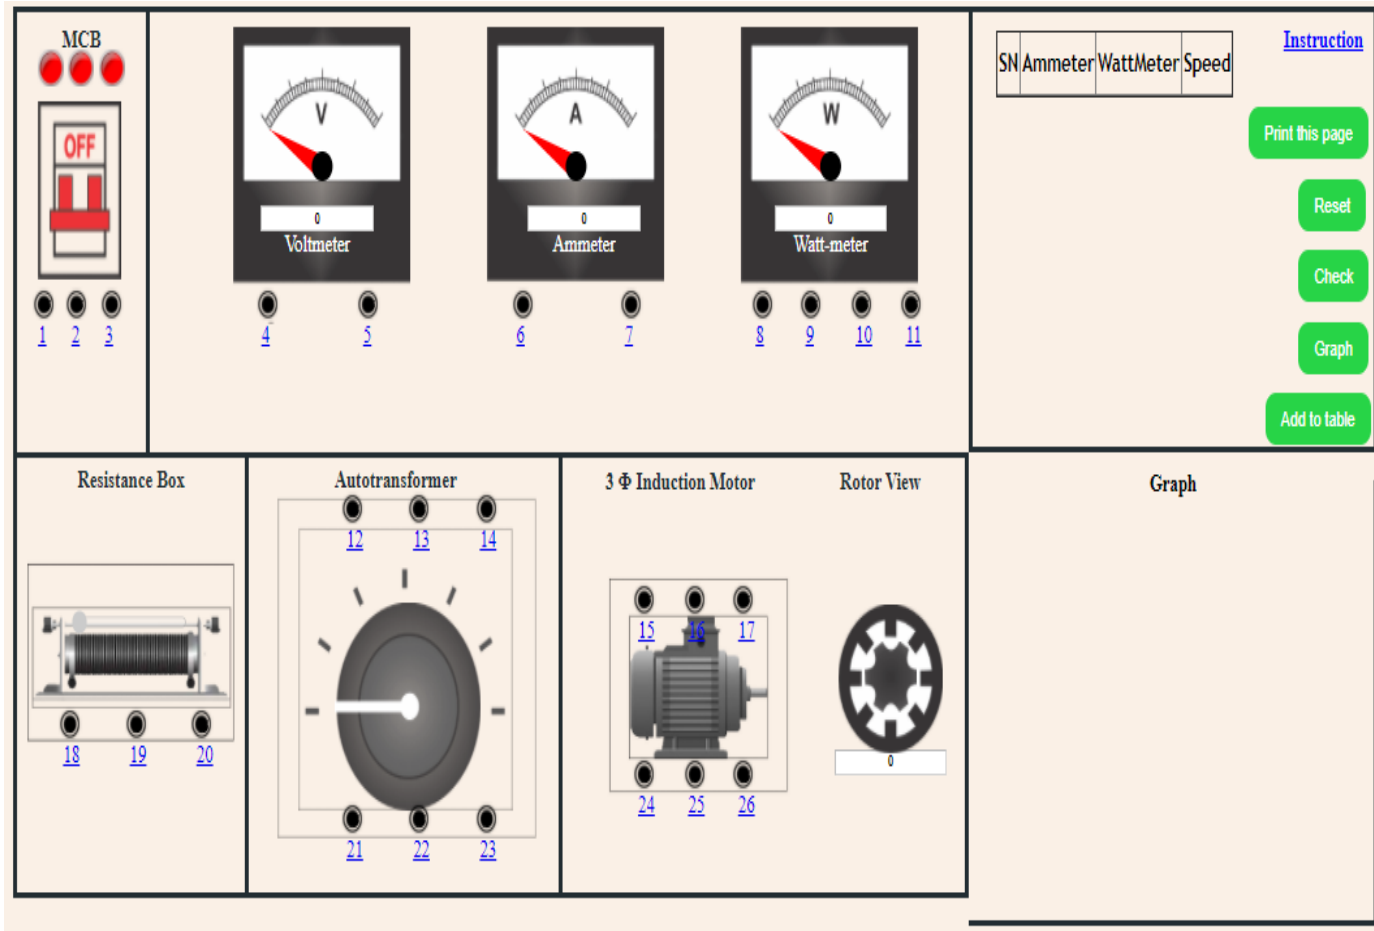

Figure 2: Draw the wiring diagram for this figure.
Step 5.1: Make all the correct connections. Refer to the steps below and draw the wiring diagram in Figure 2.